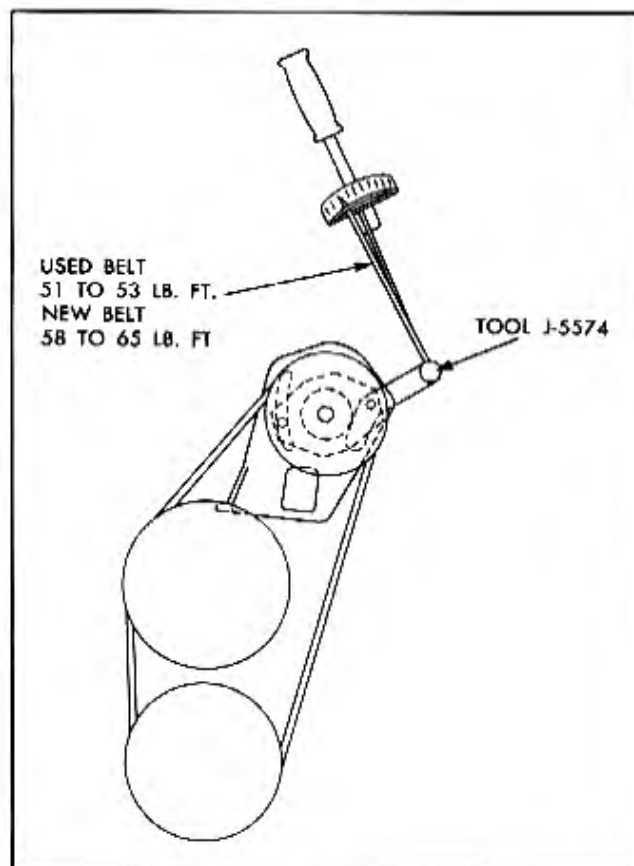

Fig. 9-69 Adjusting Pump Belt Tension
Loosen pump to bracket bolts two full turns so pump falls of its own weight. Place pump belt tightener J-5574, over head of hinge bolt as shown in Fig. 9-69. Using torque wrench perpendicular to tool, tighten a new belt 58-65 lb. ft. or a used belt 51-53 lb. ft.
7. Move pump outward until belt is properly adjusted. See Pump Belt Tension Adjustment (Fig. 9-69).